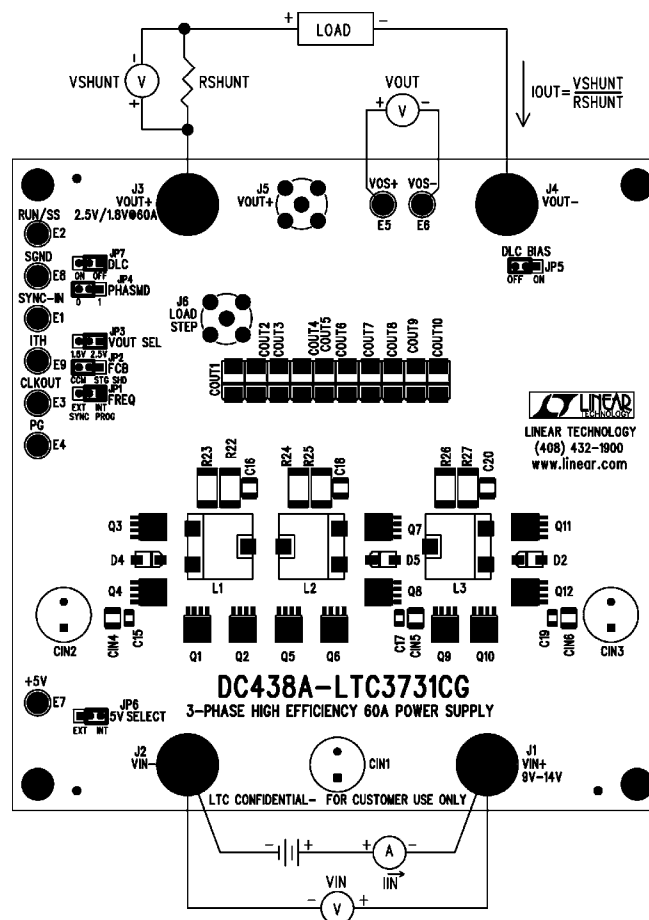

Figure 1. Proper Measurement Equipment Setup
Demonstration circuit 438 is easy to set up to evaluate the performance of the LTC3731CG. Refer to Figure 1 for proper measurement equipment setup and follow the procedure below:
3. The jumpers should be in their default positions as shown in Figure 1.